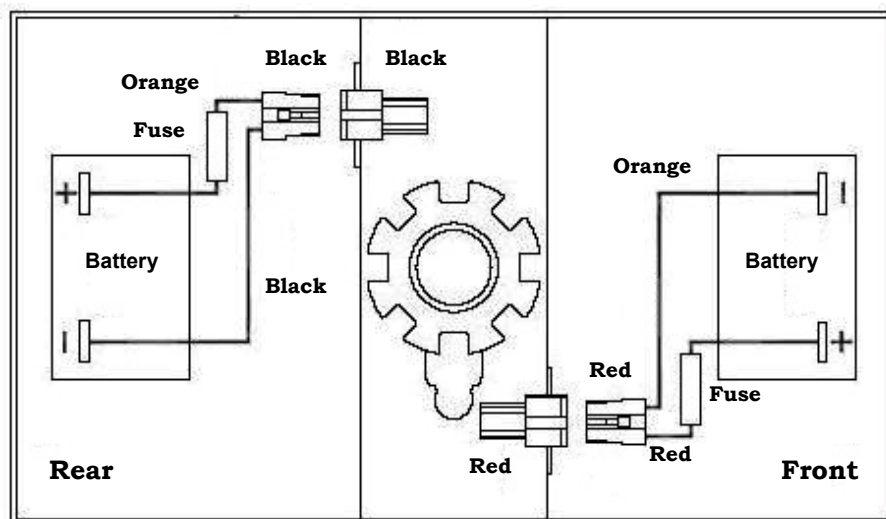

Figure 7
2. Make sure both battery harnesses are plugged into the power chair and locked. See figure 7 on page 15, and figure 10 on page 16.
NOTICE There is a “Battery Connection Diagram” located on the inside of the rear battery cover. See figure 7.
3. Place the batteries into the battery tray. Be certain the color coded connectors match. Refer to the "Battery Connection Diagram" shown in figure 7 on page 15.